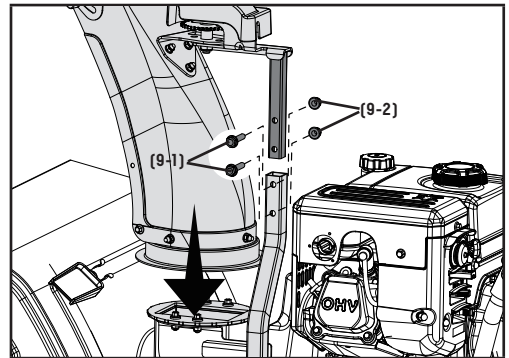

Figure 9
1. Put the snow discharge chute on the snow discharge support. Attach the snow discharge support using bolts (9-1) and nuts (9-2) (Fig. 9). Fully hand tighten.